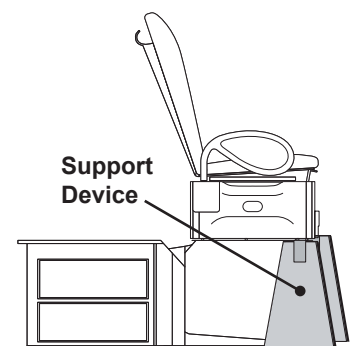

Figure 41.
1. Manually raise table and prop in raised position using a support device rated for this purpose. (See Figure 41).